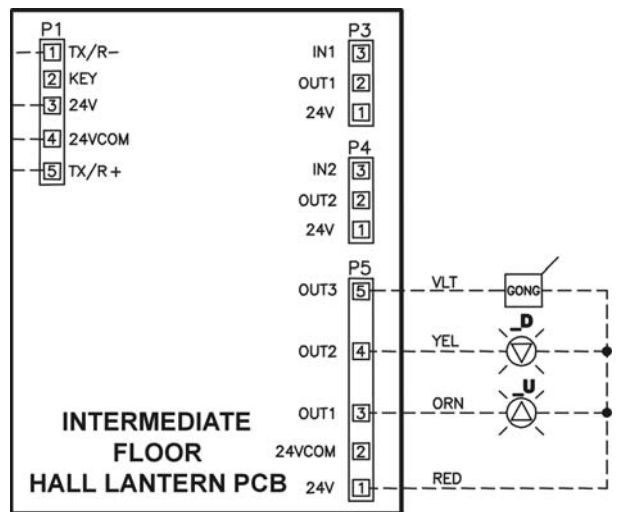

Figure 1-17
- Connect the Hall Lantern cable to the P5 (5 pin) connector on the HPU board. [See Figure 1-17.]